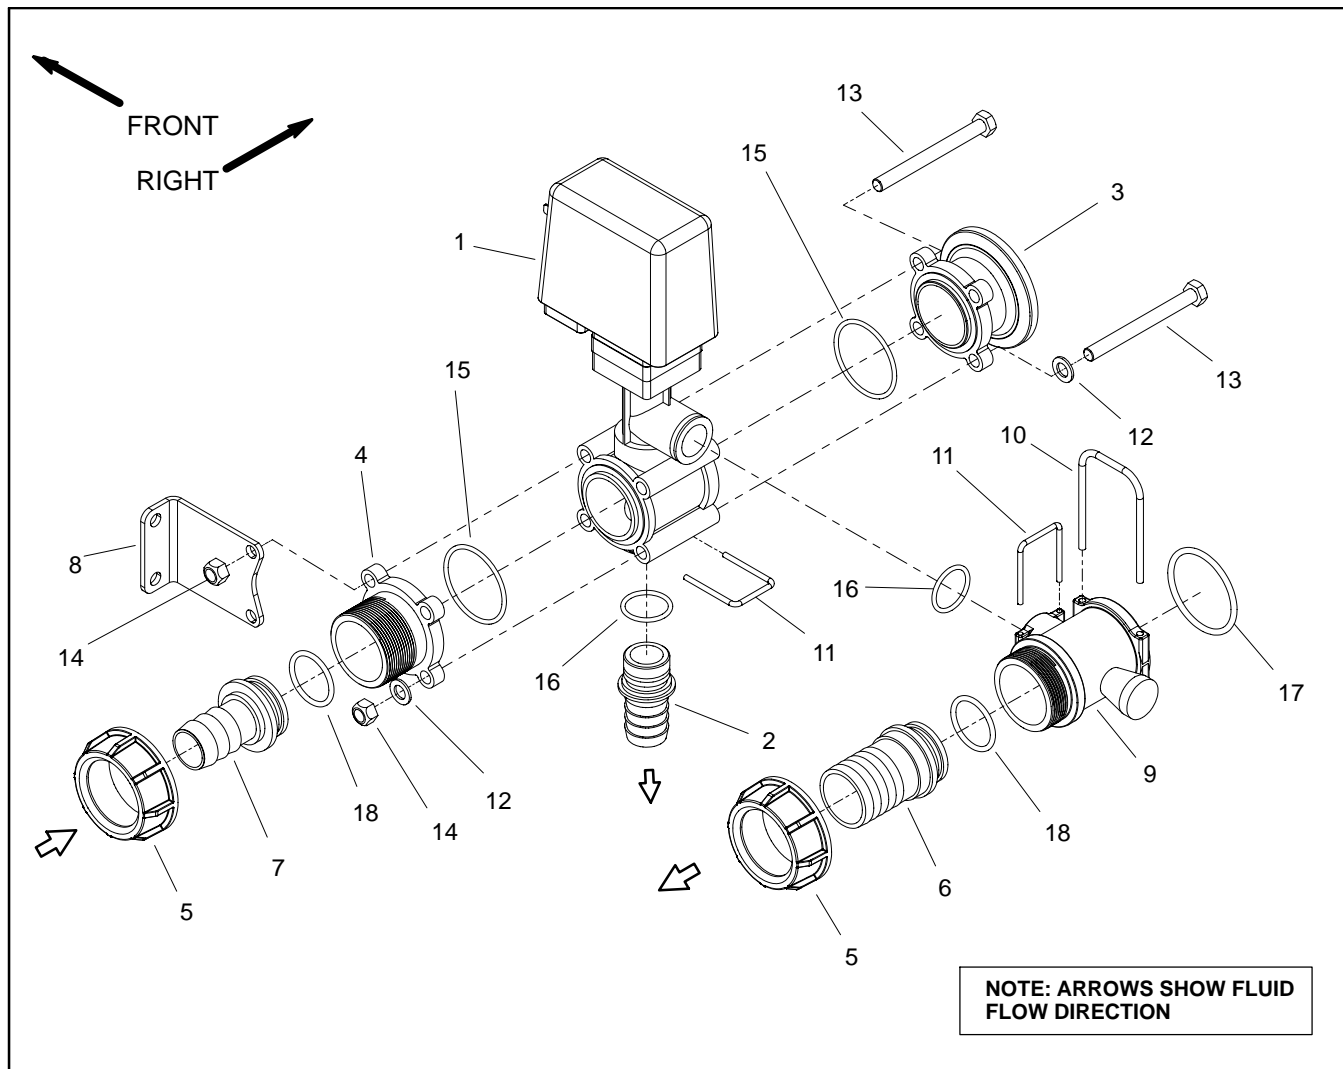

Figure 20
Disassembly (Fig. 20)
3. Disassemble agitation valve assembly as needed using Figure 20 as a guide. Discard all removed O-rings and gaskets.
Assembly (Fig. 20)
1. Assemble agitation valve assembly using Figure 20 as a guide. Replace all removed O-rings.